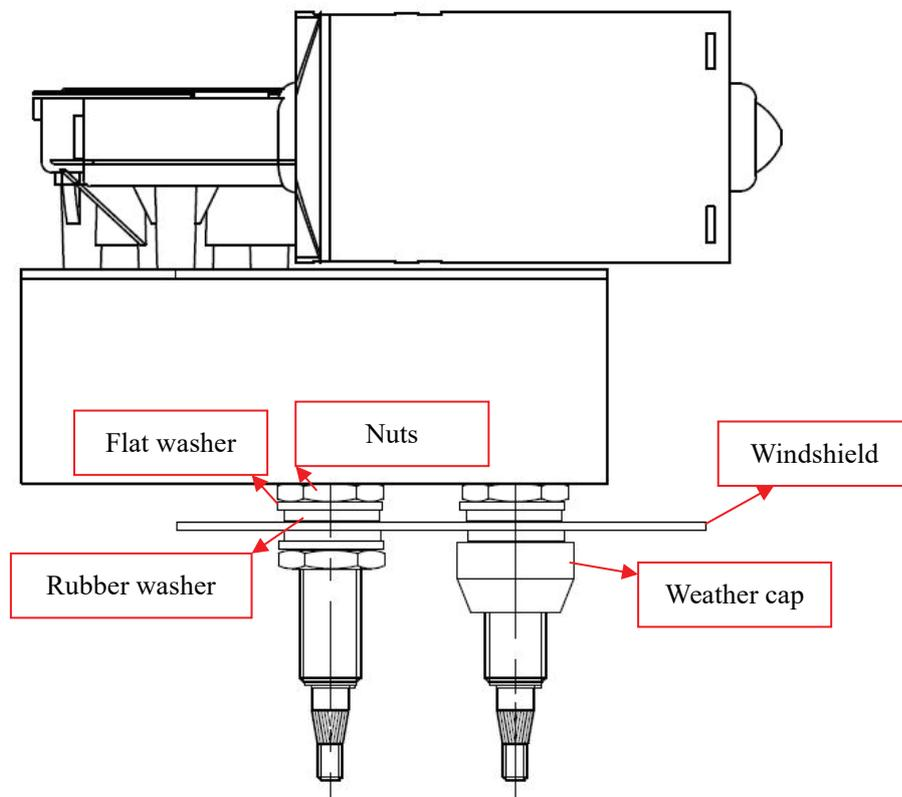
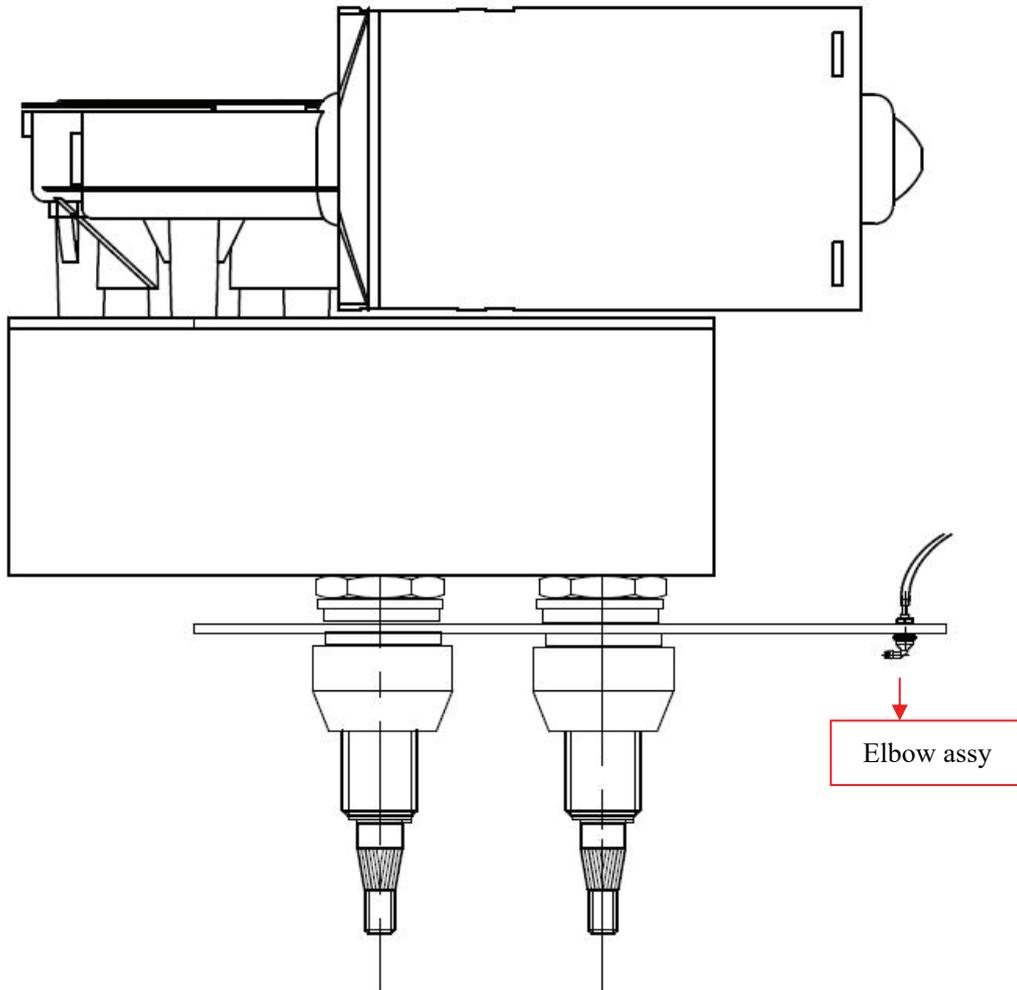

Figure 1
Figure 2
4.1 Install the motor assembly and elbow into the windshield holes in the cab and fix them with nuts, as shown in Figure 1 and Figure 2